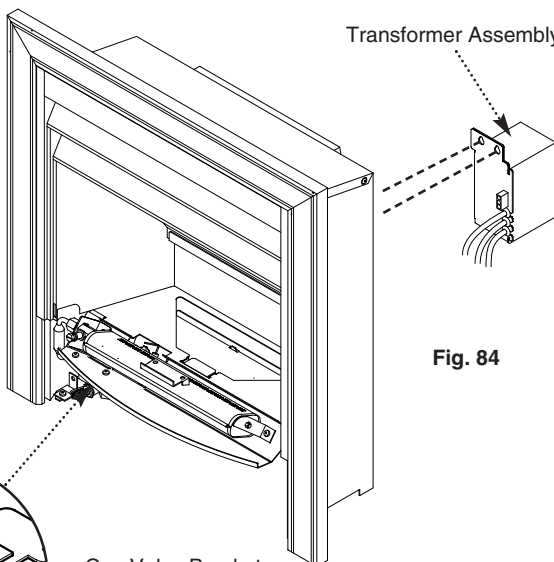

Fig. 84
10.9 Transformer Assembly (Fig. 84)